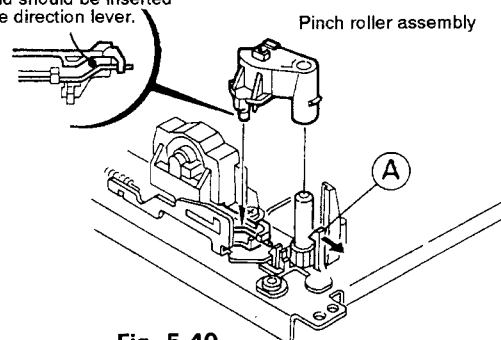

Fig. 5-40
■ Pinch Roller Assembly (See Fig. 5-40)
1. Attach the larger flywheel to the FM bracket as shown in Fig. 5-40/41.
4. Hang the reel belt on the mechanism assembly stud as shown in Fig. 5-40 so carefully that the belt will not be twisted.